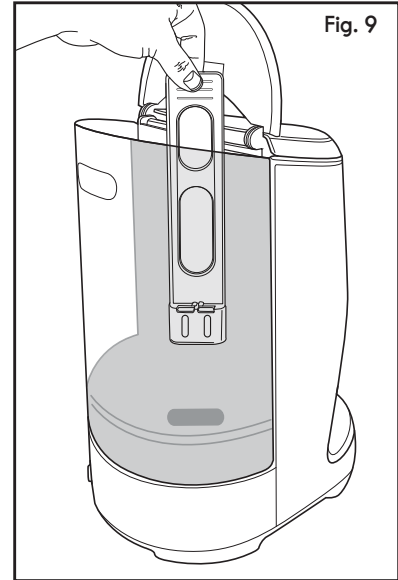

Fig. 9
2. Open the cover of the water tank, and pull out the water filter carriage (Fig. 9).